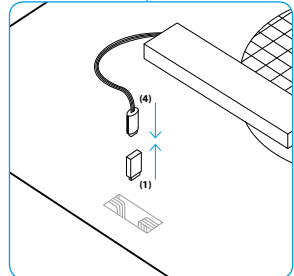

Abb. 3 Einfache Montage des Receivers
Fig. 3 Simple mounting of the Receiver The receiver is installed easily without extra tools. Remove the Stick (1) at the top side of the hood and insert the Receiver (4)